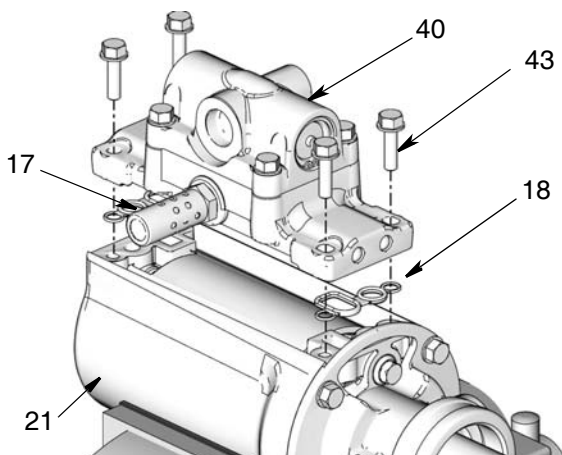

Fig. 17
8. Secure pump assembly in a vise as shown in Fig. 17.
10. Be sure seals (18) are lightly greased and installed on air valve (40). Install air valve on air cylinder (21).
11. Install screws (43). Torque to 60-70 in. lbs (6.8 - 7.9 N.m).
12. Torque screws (4) installed in Step 6 to 60-70 in. lbs (6.8 - 7.9 N.m).
Muffler (17) Installation (Fig. 17)
13. Depending on your installation, the air valve (40) can be mounted with the muffler (17) on either side of the air valve.